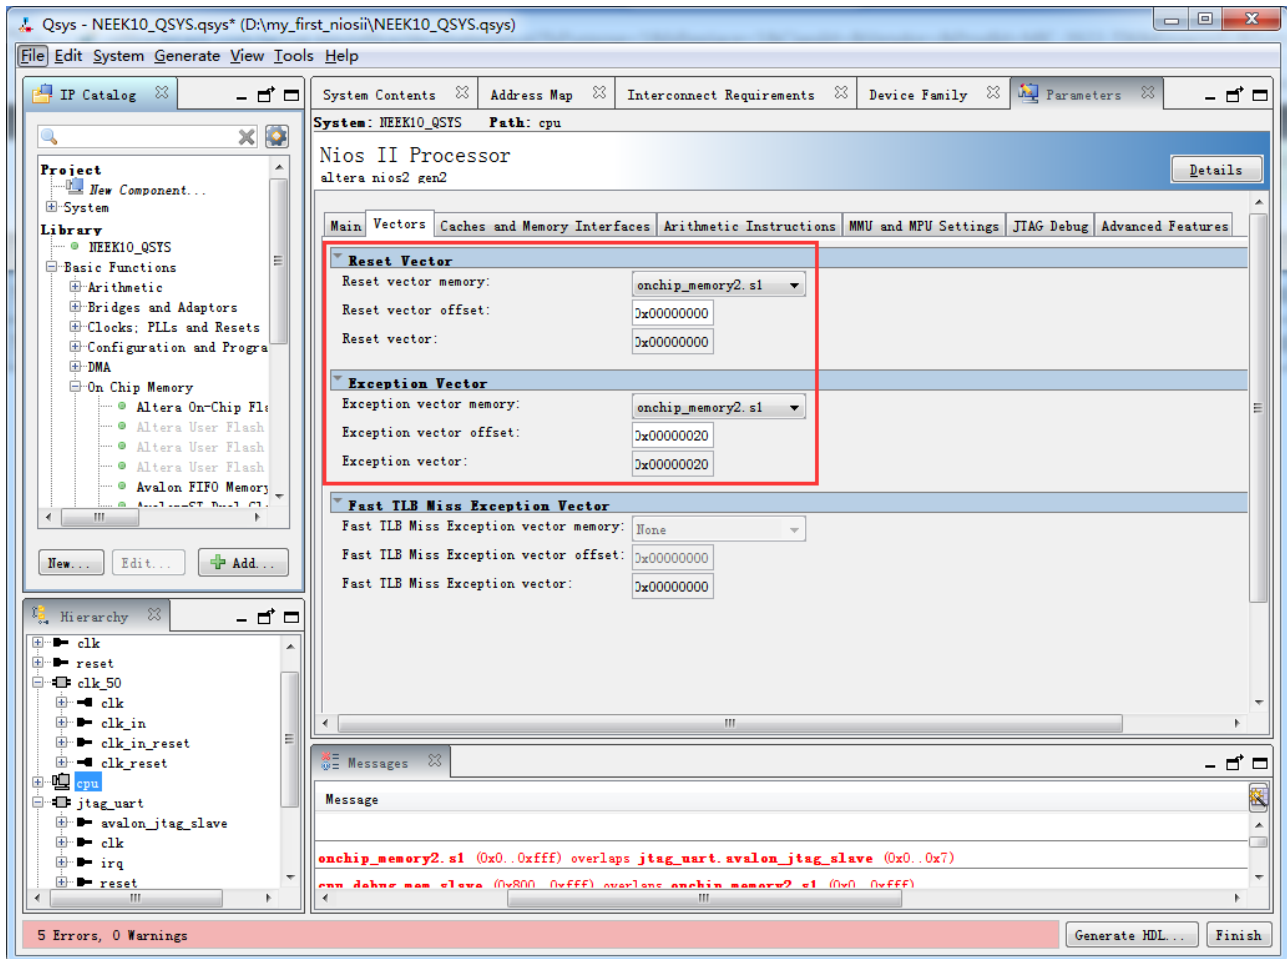

Figure 1-26 Update the settings of Nios II processor
18. Click **cpu** from the component list on the right to edit its settings. Click the Vectors tab to update Reset vector and Exception Vector, as shown in **Figure 1-26**, and click **Finish**.